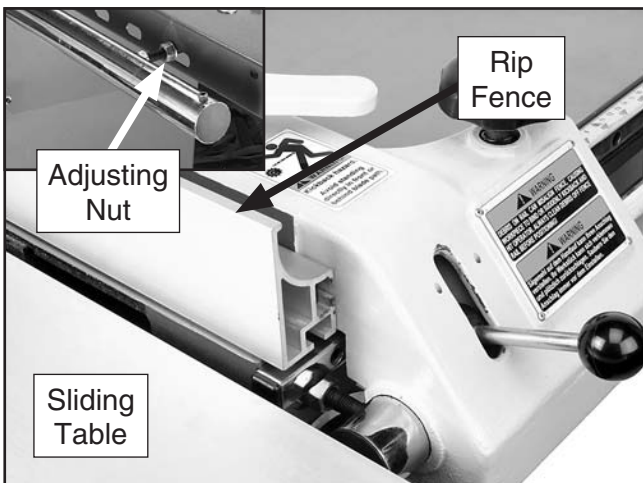

Figure 26. Aligning the fence with the edge of the stationary table.
- Rotate the adjusting nut of the stud on the far right until the rip fence is parallel with the edge of the table as shown in **Figure 26**. Tighten the nut inside the lip of the table to secure the stud, then tighten the outside nut against the adjusting nut.